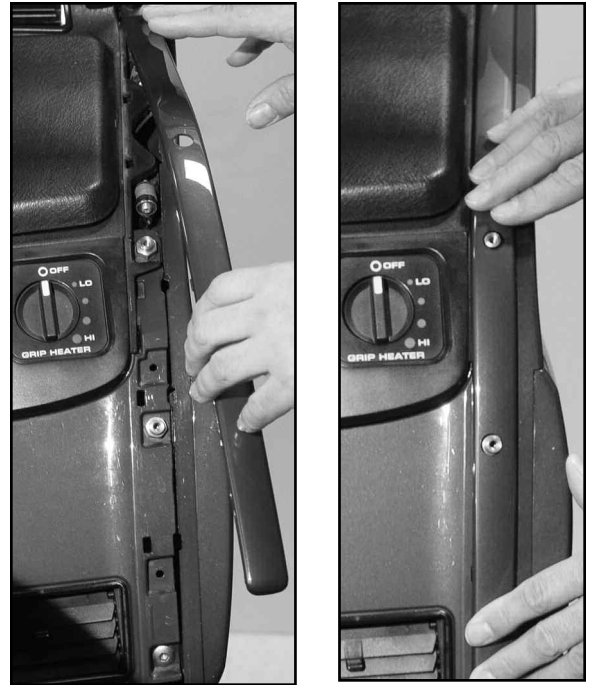

Figure 6
1. Replace the trim strips to the fairing working opposite of the way they were removed. Starting at the top push the top edge of the trim strip into the slot and work the outside edges strip into the notches and gently push in the back edges. Work your way down to the bottom of the trim strip. Holes in trim should align with standoffs. **Figure 6**